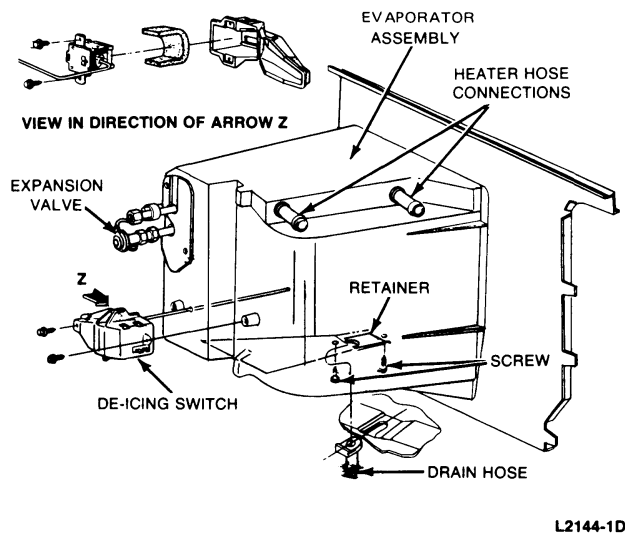

FIG. 22 A/C Thermostat (De-Icing Switch) and Drain Hose Installation
| <p>install the blend door shaft into the blend door housing.</p> <ol style="list-style-type: none"> 2. Install the blend door and housing into the plenum (3 screws). 3. Install the A/C blower motor housing (9 screws). 4. Position control cable loop to the blend door shaft. 5. Install control cable to bracket attaching screw. 6. Connect the outside-recirculated door shaft (push nut and washer). 7. Install A/C blower cover (5 screws plus 2 screws to attach the blower scroll cover-to-plenum assembly). 8. Connect vacuum line to the outside-recirculated vacuum motor. 9. Connect the electrical leads to the resistor. 10. Adjust the control cable as described under Adjustments and Fig. 9. | <ol style="list-style-type: none"> 2. Disconnect vacuum line from the outside-recirculated door vacuum motor. 3. Remove A/C blower cover (5 screws plus 2 screws attaching the blower scroll cover to plenum assembly). 4. Remove push nut and washer from the outside-recirculated door shaft. 5. Remove control cable from bracket (1 screw) and slide it over bracket. Remove cable wire loop from blend door shaft. 6. Remove A/C blower motor housing (9 screws). 7. Remove the blend door housing (3 screws). 8. Remove heater hoses from heater core (2 clamps) and plug the hoses with suitable 5/8 inch plugs (Fig. 22). 9. Remove the two heater core retaining brackets (2 screws). 10. Remove the heater core and seal assembly. |
7. Remove heater hoses from heater core (2 clamps) and plug the hoses with suitable 5/8 inch plugs (Fig. 22).
11. Remove the drain hose from the bottom of the evaporator case assembly (Fig. 22).
6. Install drain hose on bottom of evaporator case assembly (Fig. 22).
3. Disconnect liquid inlet hose from expansion valve (Figs. 22 and 24).
1. Connect the expansion valve to the evaporator liquid inlet line (Figs. 22 and 24).
3. Remove two de-icing cover screws from the evaporator case (Fig. 22).